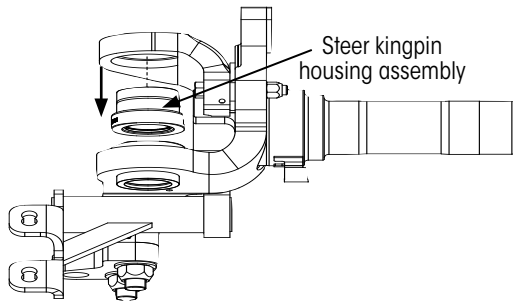

Figure 20: Removing kingpin bushings
16. **Press** out each kingpin housing assembly by forcing it inward to the knuckle (Figure 20).